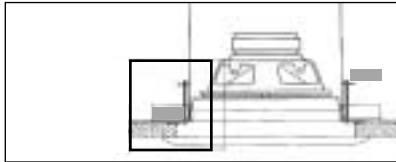

FIG. 2
**Figure 2:** Enclosure installation from below ceiling using tile bridge above. This room-side installation into suspended tile utilizes clamping "dogs" to sandwich tile between bridge and enclosure. Max. ceiling thickness is 1 1/4".